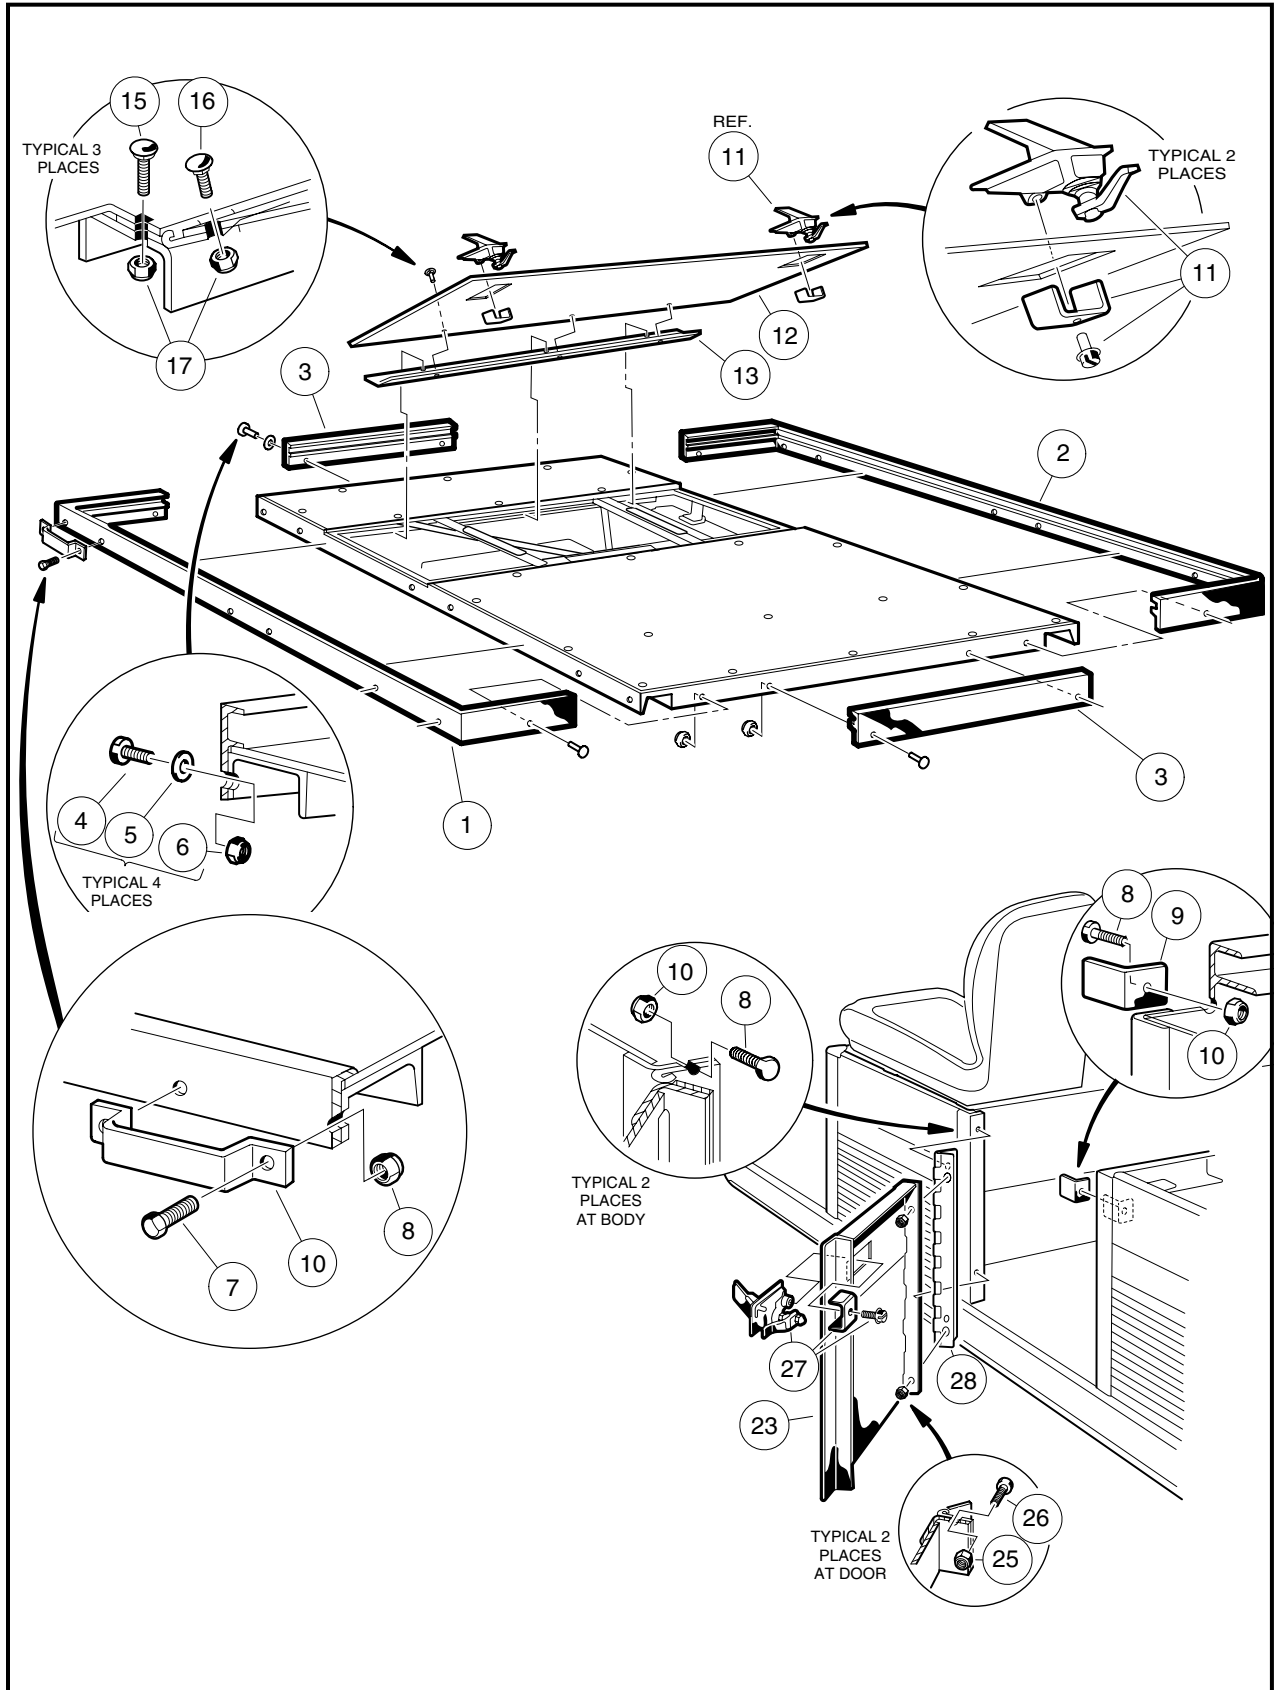

Figure 4-4 Flat Bed Trim, Access Door, and Side Door – Turf 6 and Carryall 6
1. Release access door latches (11) and open access door (12) (**Figure 4-4, Page 4-11**).
4. Remove four bolts (4), flat washers (5), and lock nuts (6) from trim strips (3) on front and rear edge of bed. Remove trim strips from bed.
5. Remove two bolts (7) and lock nuts (8) from the bracket (10) on driver-side trim strip (1). Remove bracket from bed.
2. Tighten bolts (4 and 7) to 8 ft-lb. (10.8 N·m) (**Figure 4-4, Page 4-11**).
1. Raise levers on left and right hand door latches (11), rotate them 180 degrees and open access door. Rest door against seat back support panel (**Figure 4-4, Page 4-11**).
2. Remove three lock nuts (17) and bolts (16) from access door side of hinge.
1. Install access door in the reverse order of removal (**Figure 4-4, Page 4-11**).
2. Tighten nuts (17) to 8 ft-lb (10.8 N·m).
3. Close access door and secure both door latches (11).
1. Lift door latch lever (27), rotate 180 degrees, and open side door (**Figure 4-4, Page 4-11**).
2. Remove two 1/4 x 5/8 bolts (26) and lock nuts (25) from door hinge.